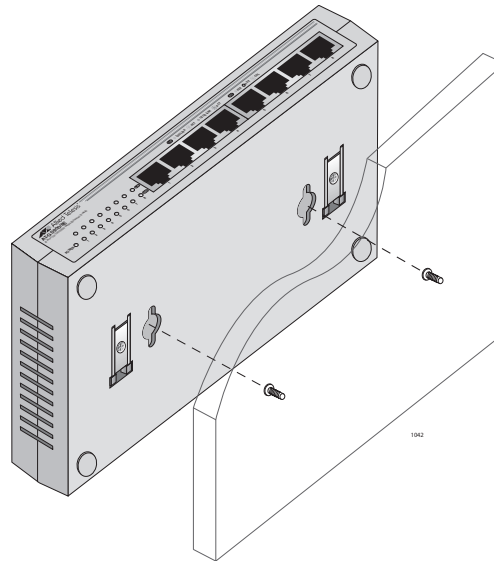

Figure 9. Wallmounting an AT-GS900/8E Switch
7. Position and hang the switch onto the wall using the two keyhole slots located in the bottom of the switch, as illustrated in Figure 9.